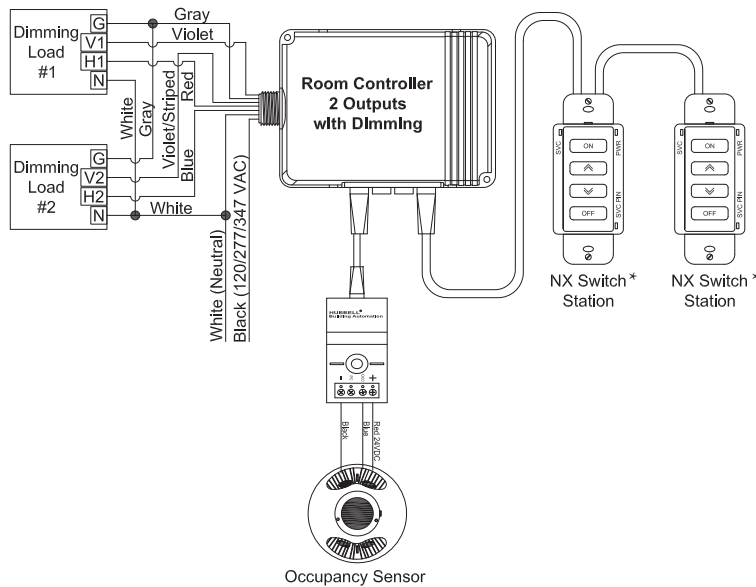

Figure 3
6. Electrically connect the Room Controller to the circuit(s) as shown in Figure 3. Reapply power at service panel.
The Room Controller provides a source of 24 VDC current to power the connected control devices such as switch stations and sensors. A maximum of 250 mA of 24 VDC current is available. Since the control components draw differing amounts of current, the following table should be used to determine how many control devices can be connected to a single room controller. In cases where two or more room controllers are connected together, the power budget is determined for each room controller based on the control devices that are plugged into that room controller. See Figure 3.
The sensor can be connected to the Room Controller Smart Port using a pre-terminated CAT5 cable (see Figure 3). Alternately, the adapter can be connected to the Room Controller Smart Port and one or more sensors connected using traditional low voltage wiring. The adapter is color coded to match the flying leads on the sensors.